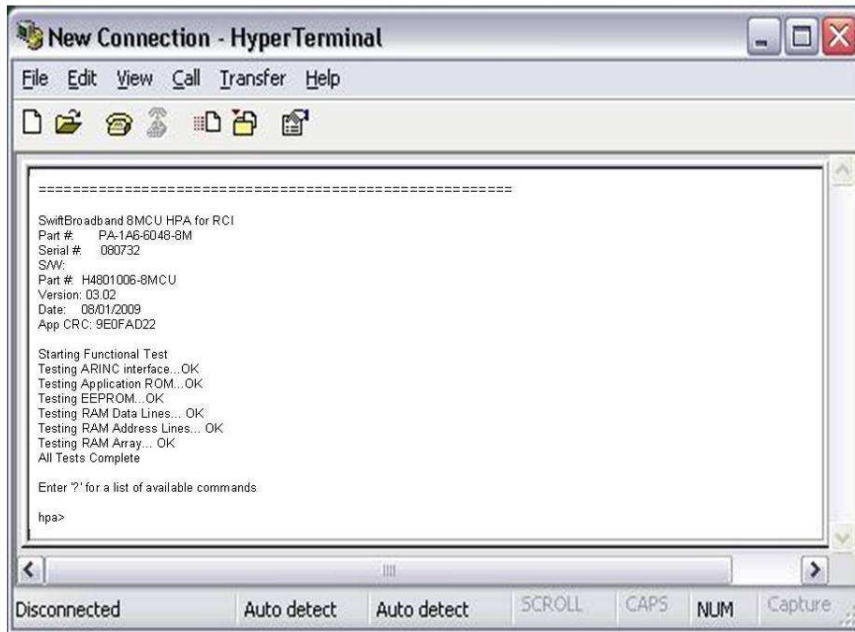

Figure 4.5 Hyperterminal setup (5)
6. After few seconds, a welcome message and command prompt will show up as in Figure 4.5. If nothing shows up, check the connection cable and setup. If connection is correct, then it means the LRU has failed.